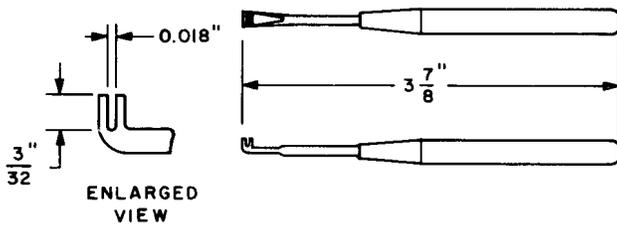

Fig. 14—270 Adjuster Tool
2.14 **270:** The 270 tool (Fig. 14) is a spring adjuster used in adjusting contact springs on precision-type interrupters and Stromberg Carlson relays.